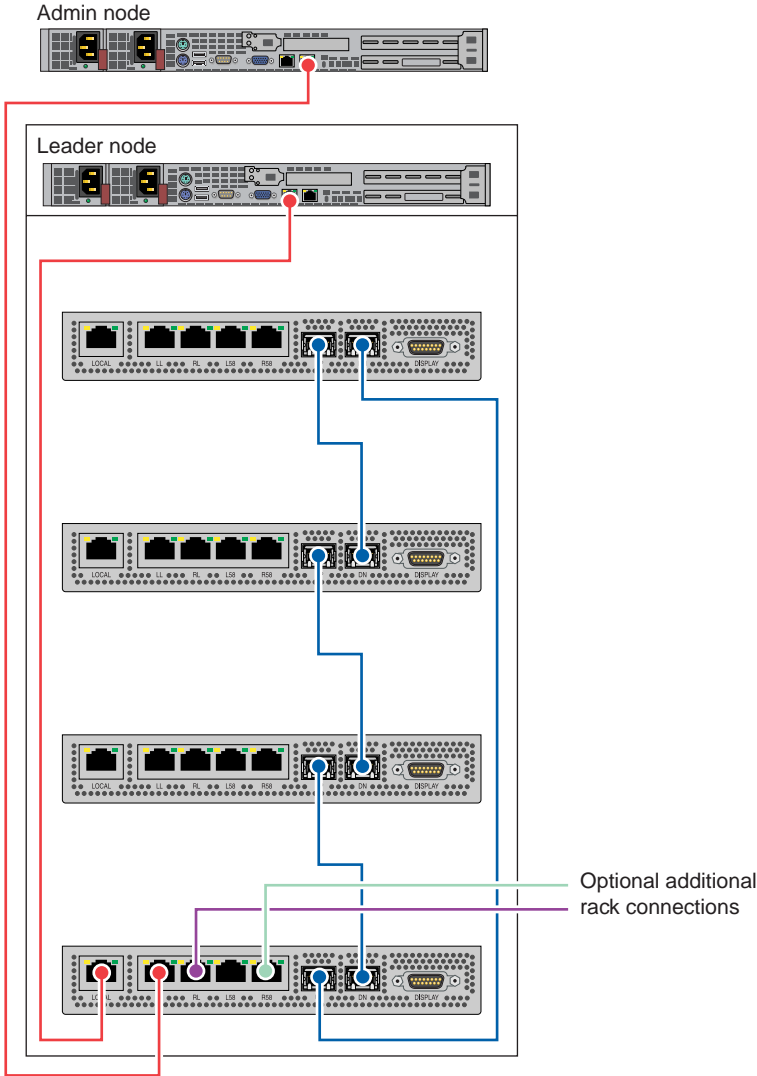

Figure 5-2 Admin/Leader to CMC Cable Examples
2. Disconnect both power cables, see Figure 5-2 on page 245 for server connection locations.